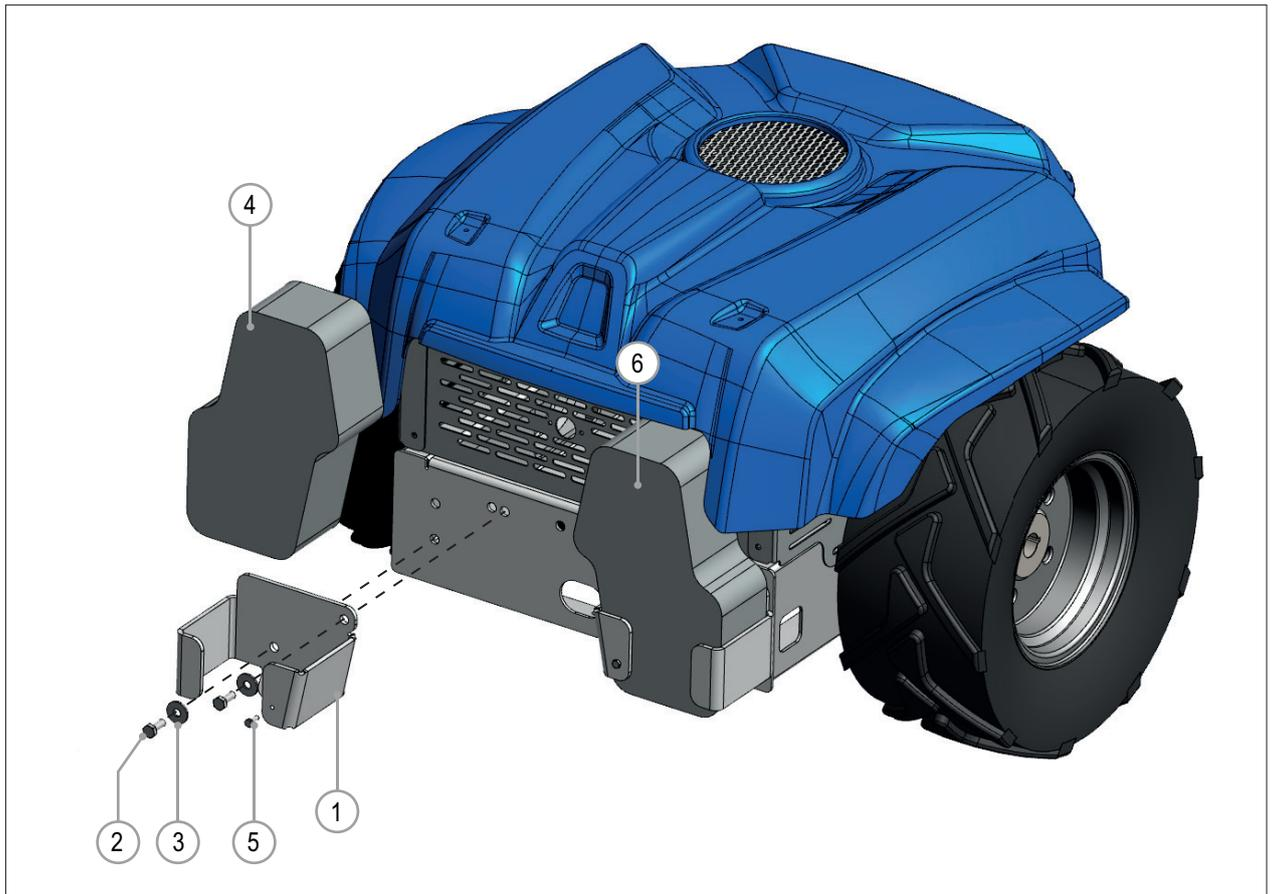

FIG. 45
- 2) Secure the back-weight bracket (FIG. 45 - Ref. 1) to the bumper using the bolts and washers (FIG. 45 - Ref. 2 and Ref. 3).
- 3) Using a lifting device, position one of the back-weights (FIG. 45 - Ref. 4) on the bracket.
- 4) Secure the back-weight using the bolt (FIG. 45 - Ref. 5).
- 5) Repeat the procedure for the second half of the back-weights (FIG. 45 - Ref. 6).